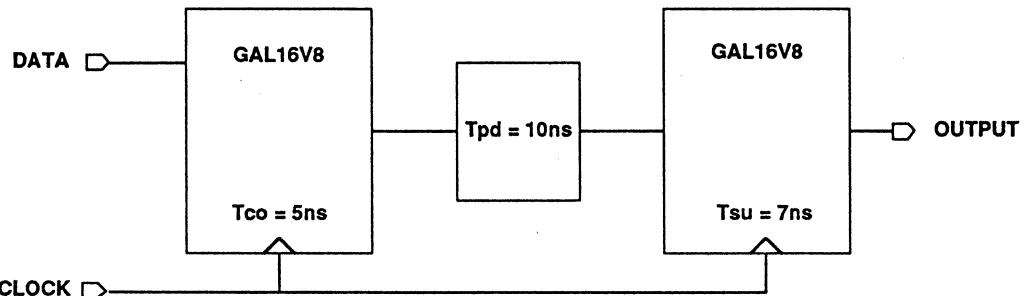

Figure 6.
To determine the maximum clock rate (given an acceptable error rate) that a particular device will allow in an asynchronous environment, equation (4) is used. For example, the system shown in Figure 6 utilizes a 9600 baud (bits/sec) asynchronous data stream. The system clock period is $tCO+tPD+tSU+\Delta$. For one failure per year: